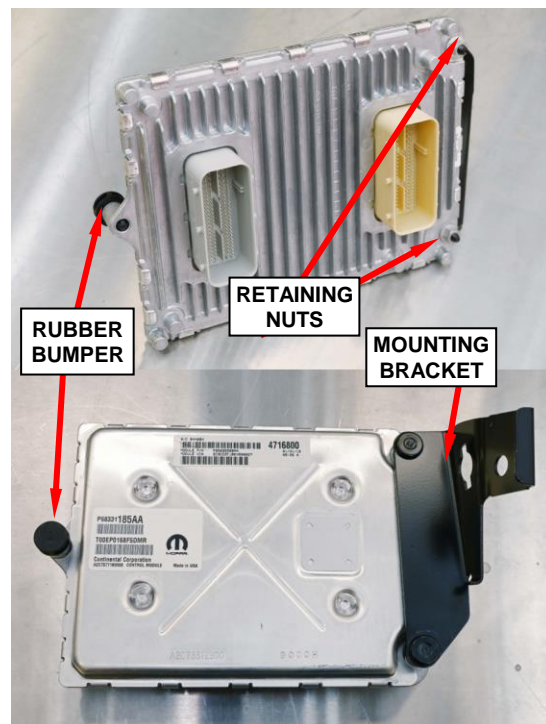

Figure 9 – PCM Mounting Bracket and Rubber Bumper
7. Transfer the rubber bumper from the old PCM to the new PCM (Figure 9).
8. Transfer the mounting bracket and retaining nuts from the old PCM to the new PCM (Figure 9). Tighten the nuts to 8 N·m (71 in. lbs.).